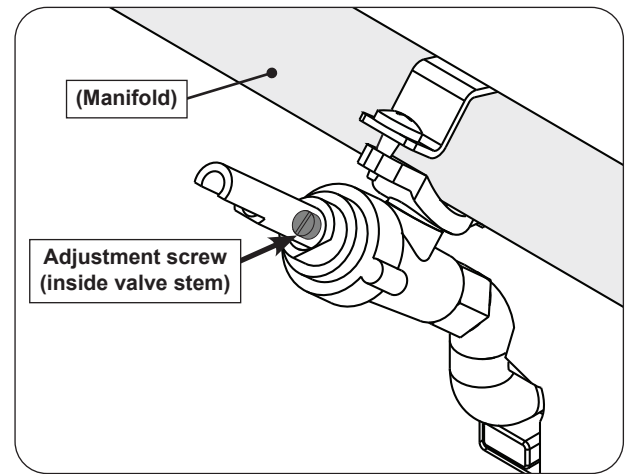

Fig. 39-1 Valve adjustment screw location
4. Locate the FLATHEAD adjustment screw found inside the valve stem (see Fig. 39-1).